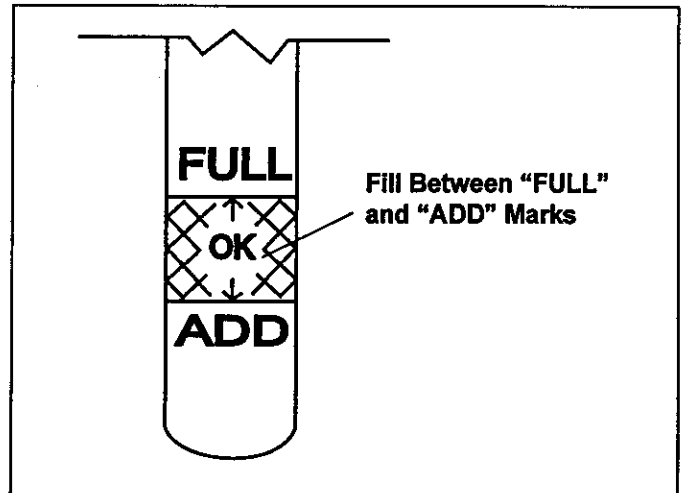

Figure 6. Engine Oil Level
- Keep oil level between "FULL" and "ADD" marks on dipstick. See Figure 6.
4. Unscrew and remove oil fill cap from oil filler tube. Note oil level. If oil reading on dipstick is below "ADD" mark, slowly add oil to reach "FULL" level. See Figure 6, on page 4. Afterward, continue reading instructions below.